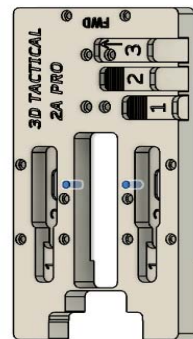

Figure 0-4
- 2 holes at the center of the top plate (in line with the #3 guide slotted opening). Refer to Figure 0-4